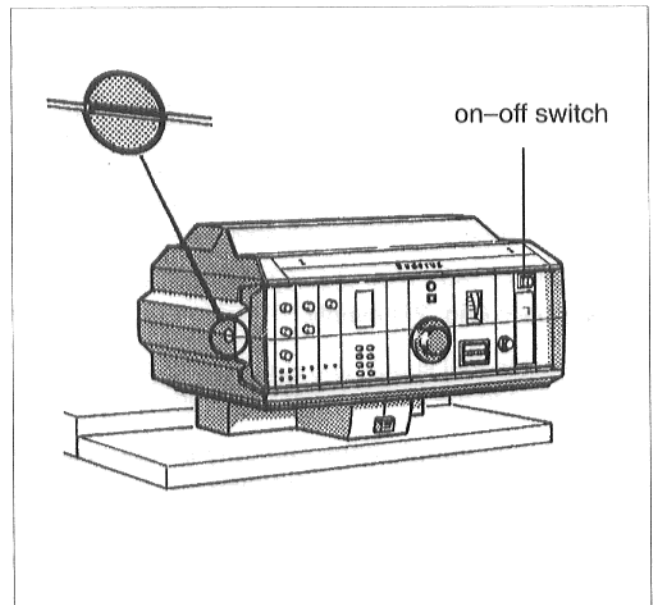

Fig. 25
- Put the screw slot of the transparent cover of the control panel (Fig. 25) into a horizontal position, e.g. with a coin. Remove the transparent cover towards the front.
- Switch the on–off switch (Fig. 25) on the control panel to position 0 (OFF).
- Put the on-off switch (Fig. 25) on the control panel into position I.